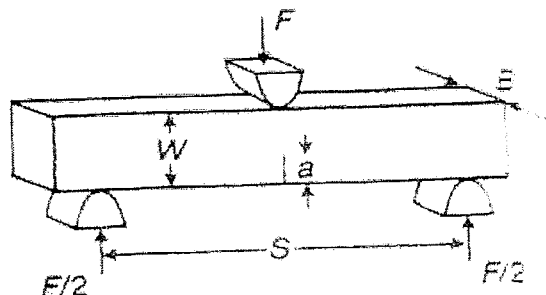

Figure 2 - Single-edge-notched bending test
4. Single-edge-notched bending test as shown in Figure 2 were performed on rectangular polycarbonate (PC) bars with dimensions $B = 5 \text{ mm}$, $W = 10 \text{ mm}$, and $S = 80 \text{ mm}$. The PC has $E = 3.5 \text{ GPa}$, $\nu = 0.40$, $\sigma_y = 65 \text{ MPa}$, and $G_{IC} = 1.5 \text{ kJm}^{-2}$ in plane strain.